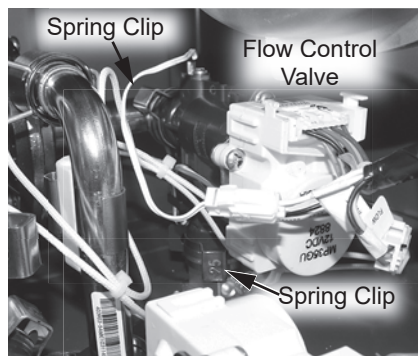

Figure 218 - Locating Flow Control Valve
**17** Remove the two (2) spring clips (size 25) securing the flow control valve to the piping system. Place the spring clips aside in a safe place for reinstallation. See Figure 218.